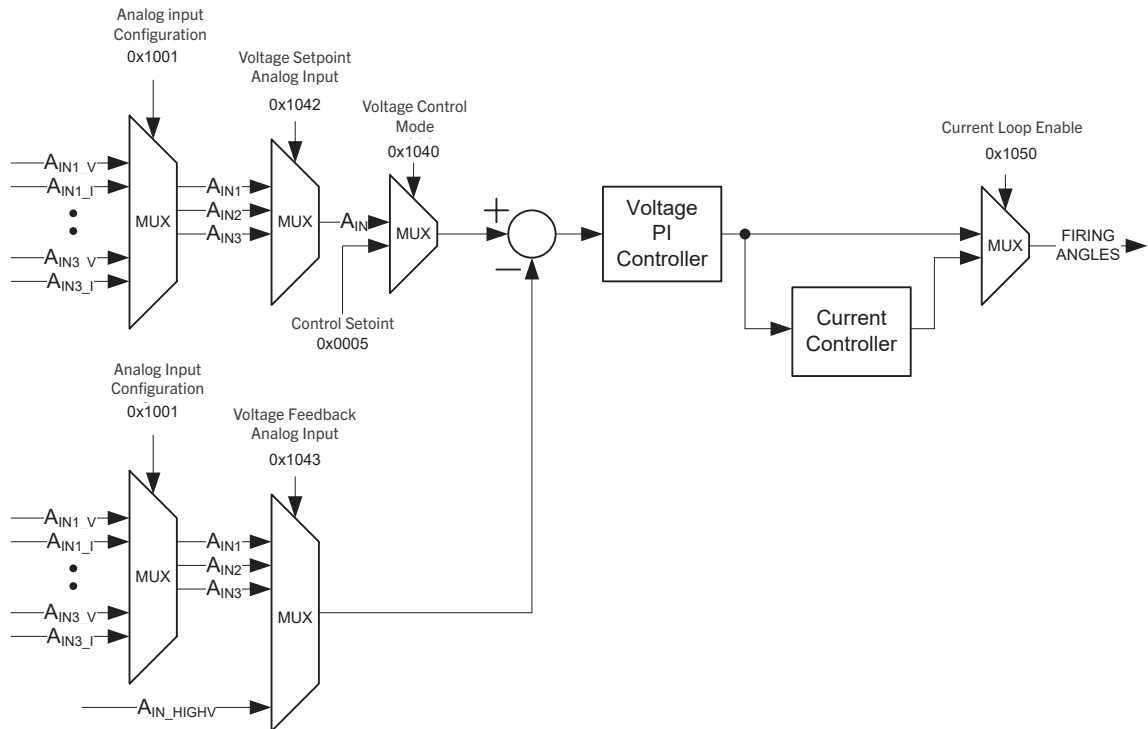
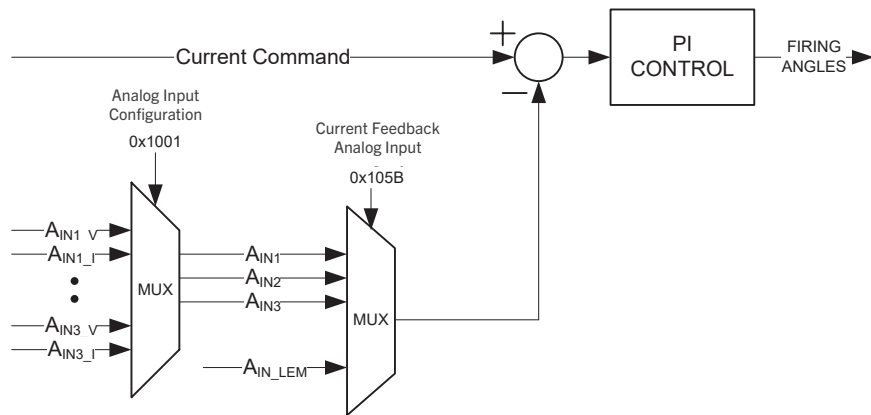

Figure 22 - Voltage Control Mode Block Diagram
Figure 24 - Inner Current Loop Block Diagram
The voltage controller is implemented as a classical Proportional plus Integral (PI) controller. All the PI controller gain settings are configurable using the Modbus interface. In addition, the voltage controller can be configured for multi-loop control using an inner current controller. Figure 22 provides a block diagram of the voltage mode controller. Figure 24 provides details on the voltage PI controller and Figure 24 illustrates the inner current controller implementation.